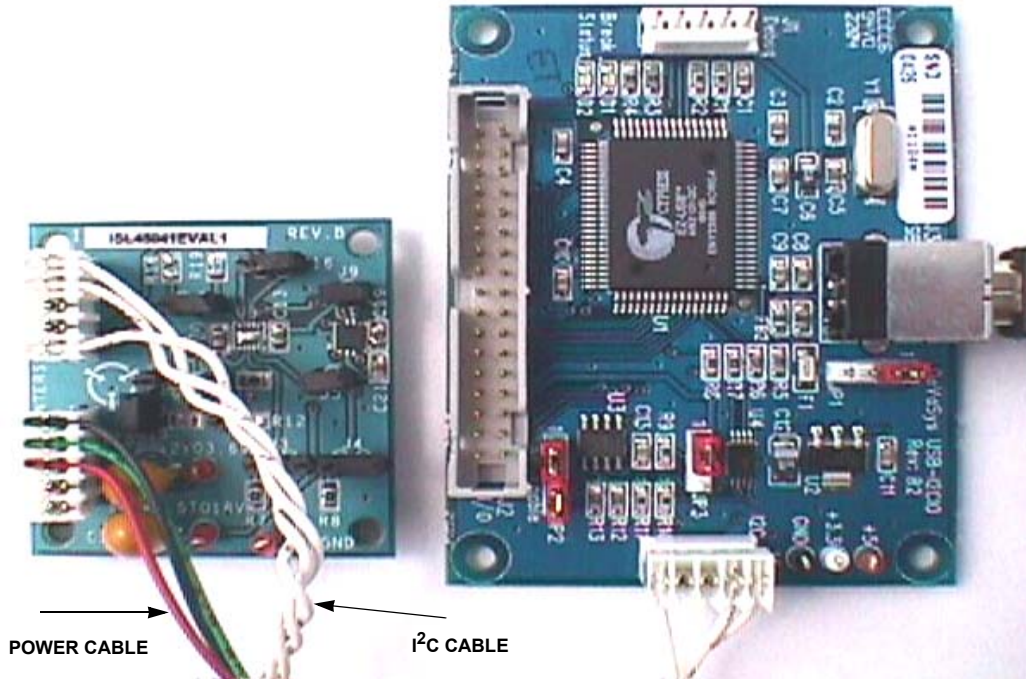

FIGURE 5. ISL45041EVAL1 TEST SETUP
1. Connect the ISL45041EVAL1 board to the DeVaSys board as shown in Figure 5. Note: Connect the I²C cable as shown in Figure 5.
3. Connect the power supply cable to the ISL45041EVAL1 board. Note: Connect the power cable as shown in Figure 5. Turn on the power supplies to power up the ISL45041EVAL1 board (make sure the cables are connected properly -- **RED = AVDD; GREEN = VDD; BLACK = GND**).